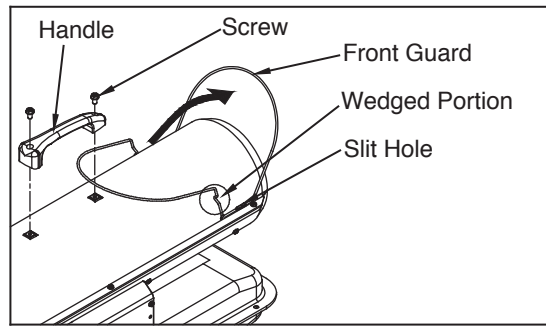

Figure 6. Assembling Handle & Cord Wrap
- 2) Align the holes in the upper housing with two mounting holes on the handle as shown in Figure 6.